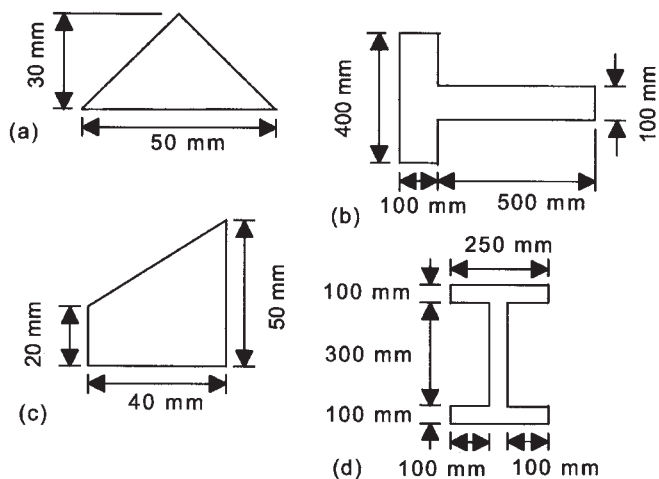

Figure 2.39 Problem 22
- 22 The shapes in Figure 2.39 were cut from constant thickness sheet of uniform density. Determine the positions of the centre of gravity.